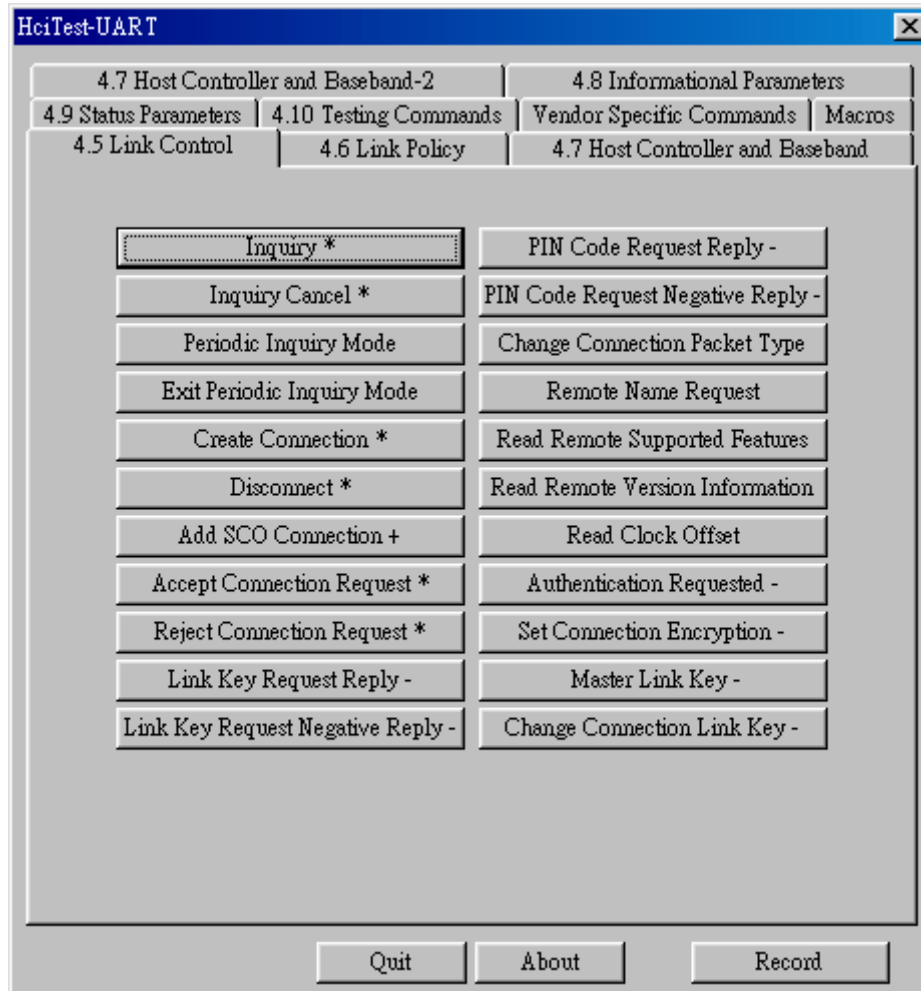
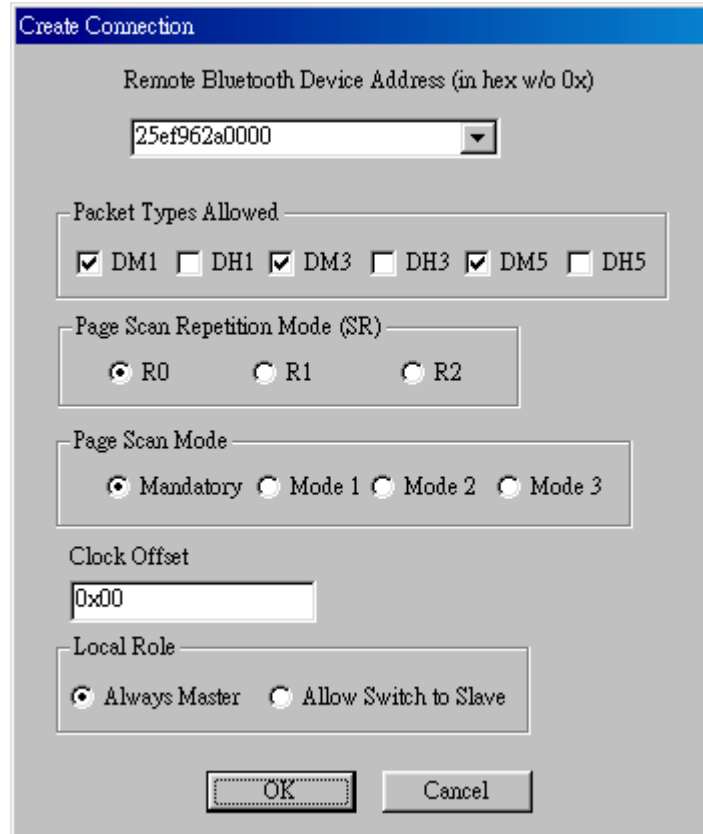

Figure 19: Create Connection
Figure 20: Create Connection
- On the Master computer, click on “4.5 Link Control” box, and then click on the “Create Connection” button. (as Figure 19). A “Create Connection” window will appear, clicks on **OK** (as Figure 20).